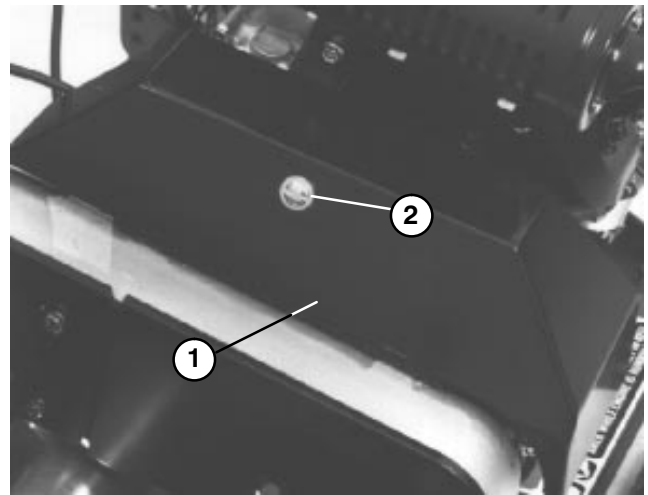

Figure 35
Primary v-belts (Fig. 35–36)
2. Loosen retainer securing v-belt cover and pivot cover open (Fig. 35).